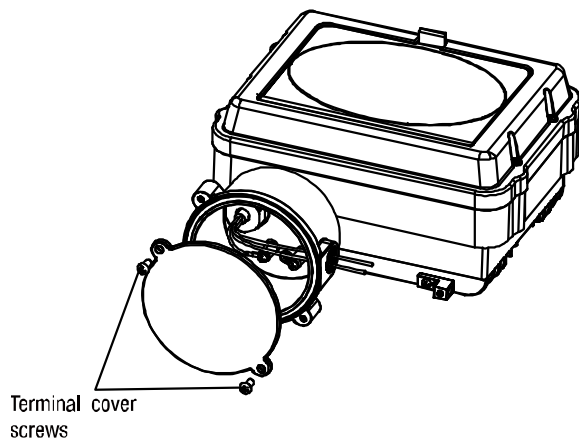

FIG. 1
- ☐ Remove the terminal box lid (FIG.1)